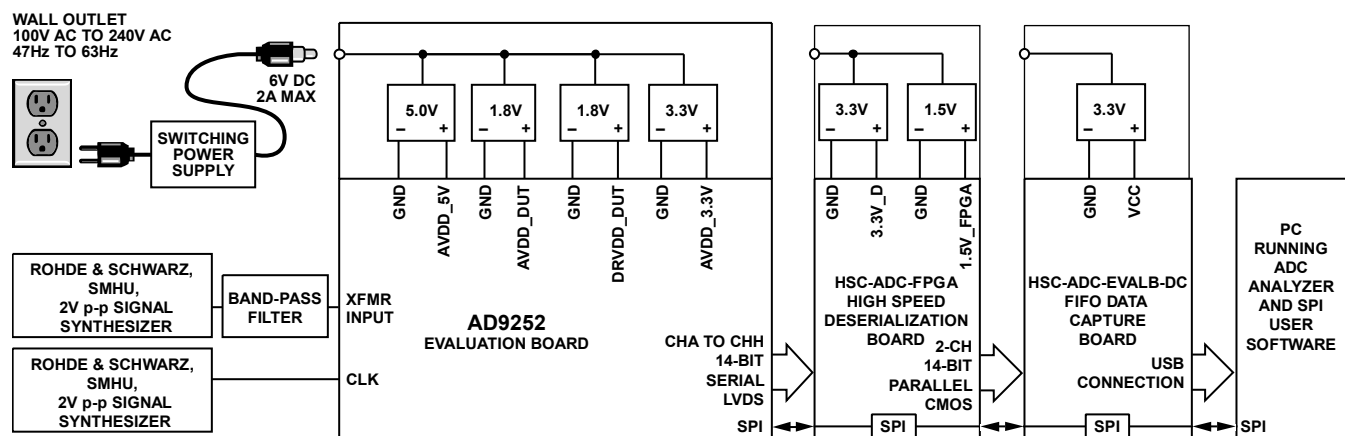
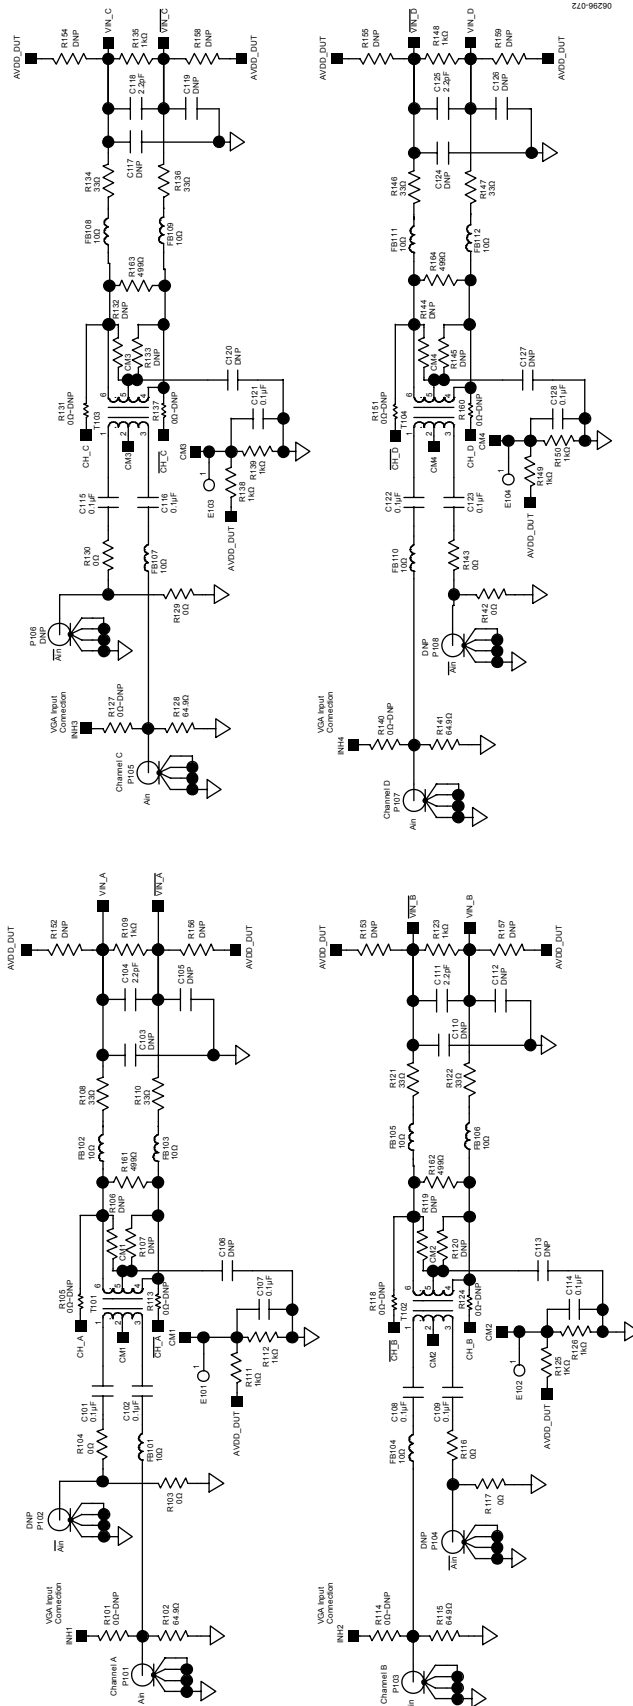
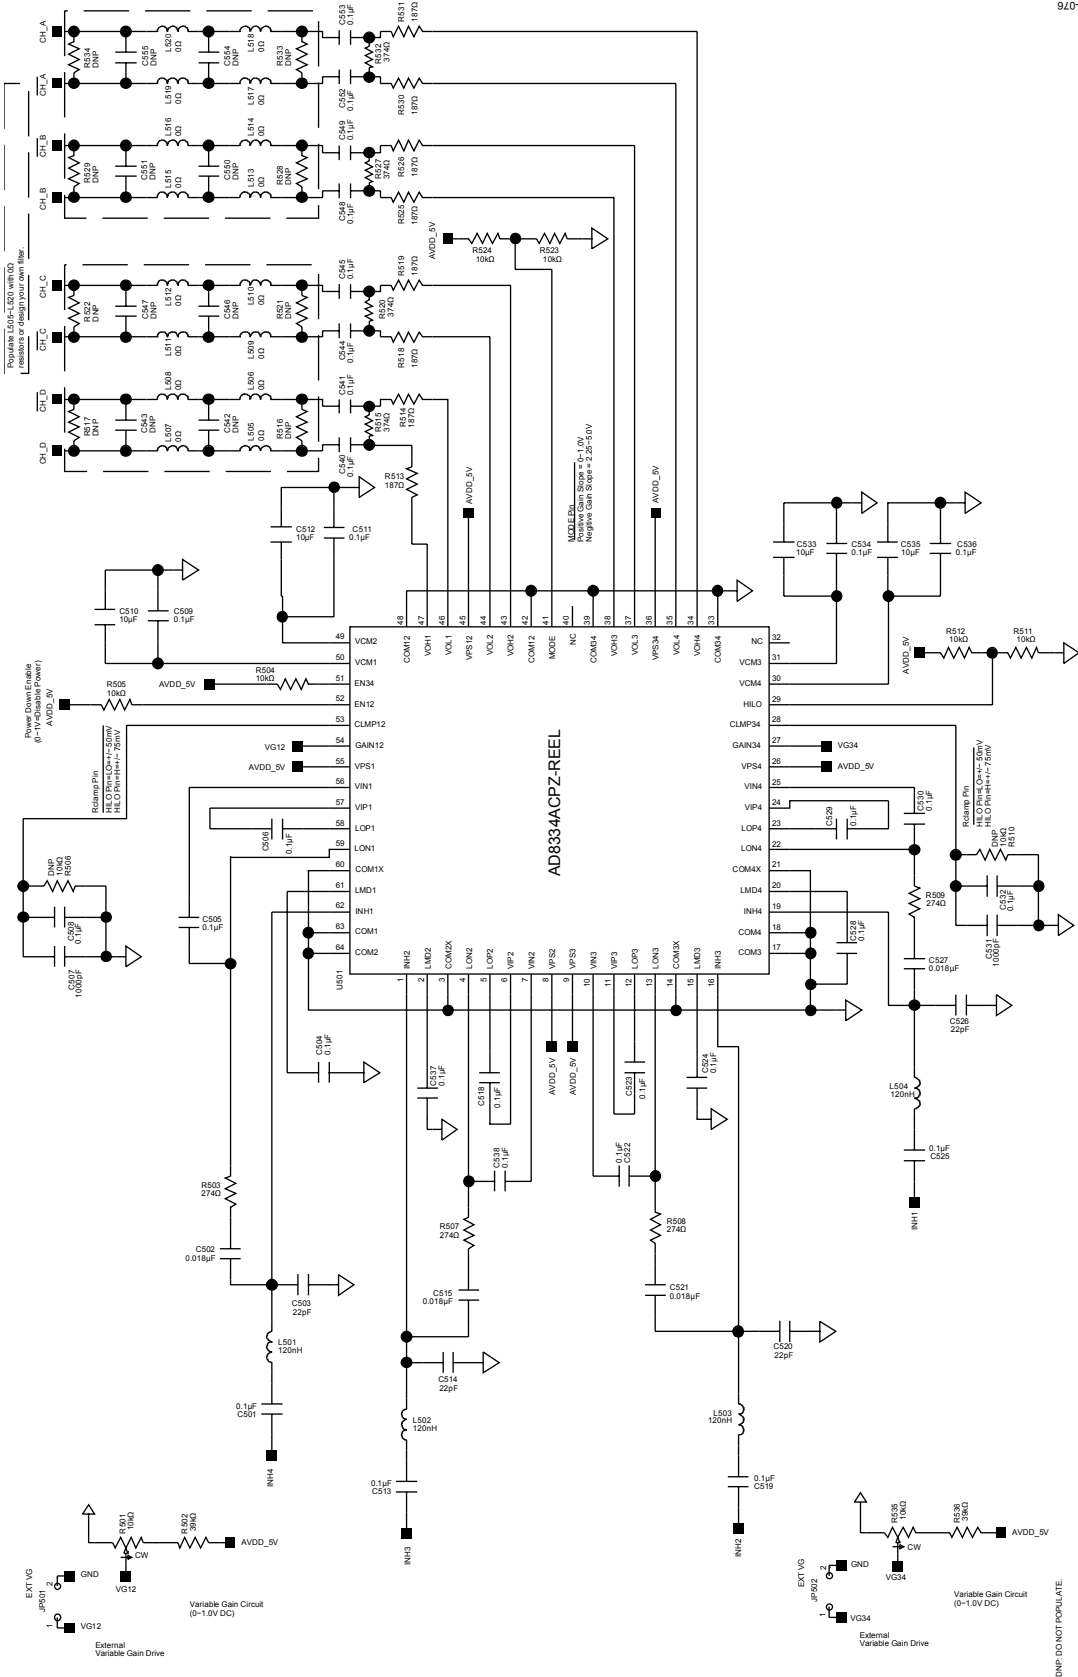
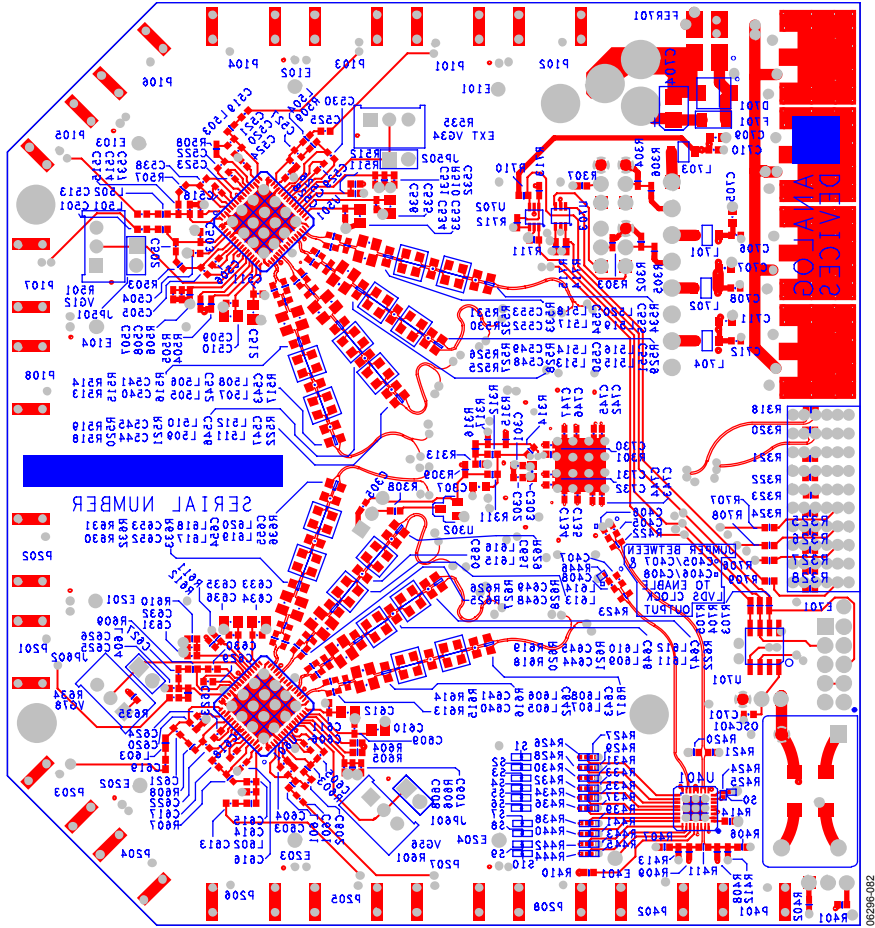

Figure 60. Evaluation Board Connection
Figure 62. Evaluation Board Schematic, DUT Analog Inputs
Figure 66. Evaluation Board Schematic, Optional DUT Analog Input Drive
Figure 72. Evaluation Board Layout, Secondary Side (Mirrored Image)
The AD9252 evaluation board provides all of the support circuitry required to operate the ADC in its various modes and configurations. The converter can be driven differentially through a transformer (default) or through the AD8334 driver. The ADC can also be driven in a single-ended fashion. Separate power pins are provided to isolate the DUT from the AD8334 drive circuitry. Each input configuration can be selected by proper connection of various jumpers (see Figure 62 to Figure 66). Figure 60 shows the typical bench characterization setup used to evaluate the ac performance of the AD9252. It is critical that the signal sources used for the analog input and clock have very low phase noise ( $<1$  ps rms jitter) to realize the optimum performance of the converter. Proper filtering of the analog input signal to remove harmonics and lower the integrated or broadband noise at the input is also necessary to achieve the specified noise performance.
See Figure 62 to Figure 72 for the complete schematics and layout diagrams that demonstrate the routing and grounding techniques that should be applied at the system level.
- **D+, D-:** If an alternative data capture method to the setup described in Figure 62 is used, optional receiver terminations, R318, R320 to R328, can be installed next to the high speed backplane connector.